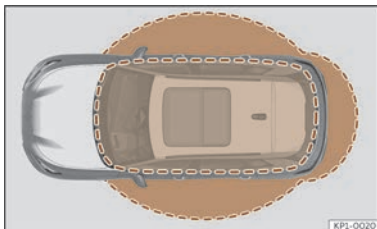

Fig. 73 Keyless Access: proximity zones.
- The vehicle is unlocked when the vehicle key is detected nearby >>> **Fig. 73**. All turn signals flash twice.